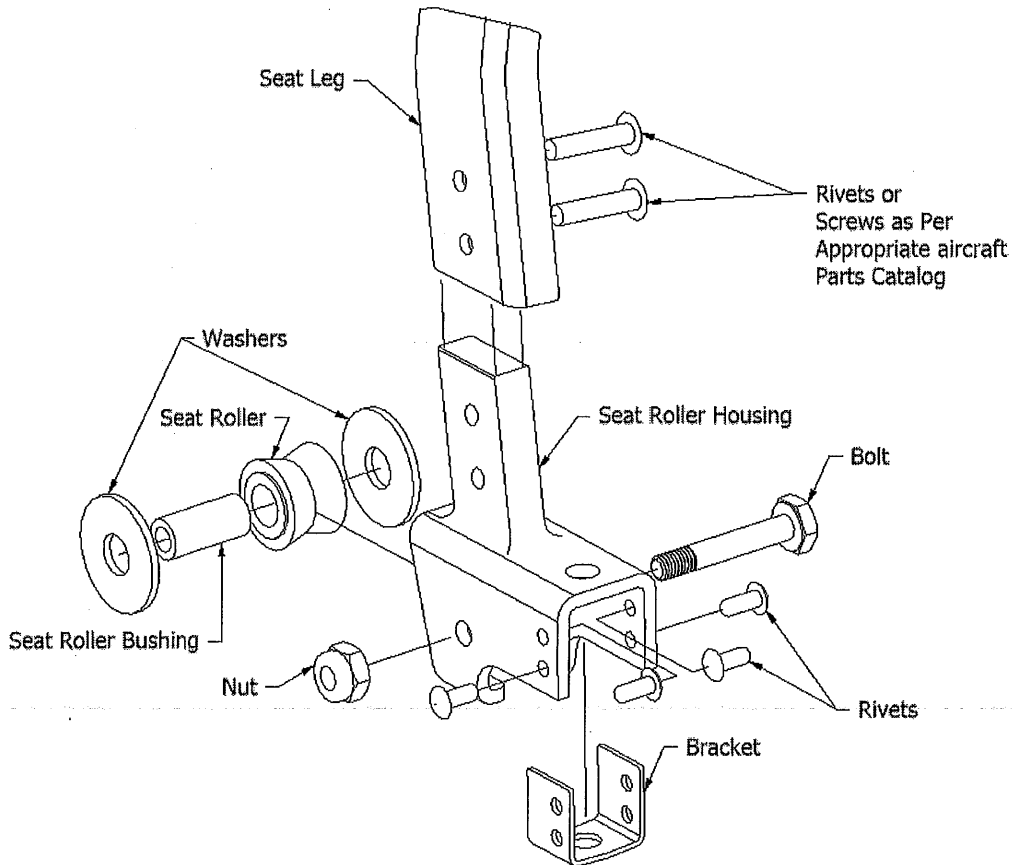

Figure 2. Typical extruded aluminum type seat roller housing/seat leg assembly.
Attachment of the Roller housing to the seat is made with either rivets or bolts as shown in Figure 2. Some of the seats use shims to properly locate the roller housing on the seat leg. Roller housings, such as that seen in Figure 1b, also provide guidance for the seat position *stop pin* (also referred to as a *locking pin*) that engages into the seat track. Holes in the roller housing and bracket guide the pin. A roll pin in the seat stop pin is captured between the bracket and the housing to limit the amount of vertical travel. In addition to the roll pin, some aircraft use a spring (between the bracket and housing) to apply positive downward pressure on the stop pin.
‡: Denotes roller housings that require field installation of the bracket (McFarlane p/n MC1414104-8 or Cessna p/n 1414104-8) seen in Figure 2.
2. For the roller housing being replaced; remove the bolt and nut shown in Figure 2; remove the roller, washers and bushing from the roller housing.
- a. For roller housings requiring field installation of the bracket seen in Figure 2.
9. Assemble roller, bushing, and washers as shown in Figure 2 and insert the assembly into the roller housing. Consult the latest revised copy of FAA Airworthiness Directive 2011-10-09 for assembly requirements. Note: Roller, washers, and/or bushing may be replaced with new parts at this time.